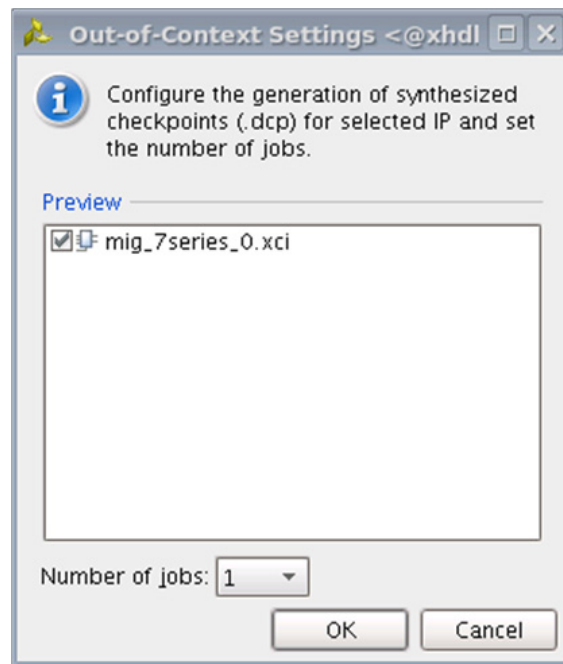

Figure 3-26: **Out-of-Context Settings Window**
2. Click **Out-of-Context Settings** to configure generation of synthesized checkpoints. To enable the Out-of-Context flow, enable the check box. To disable the Out-of-Context flow, disable the check box. The default option is "enable" as shown in Figure 3-26.